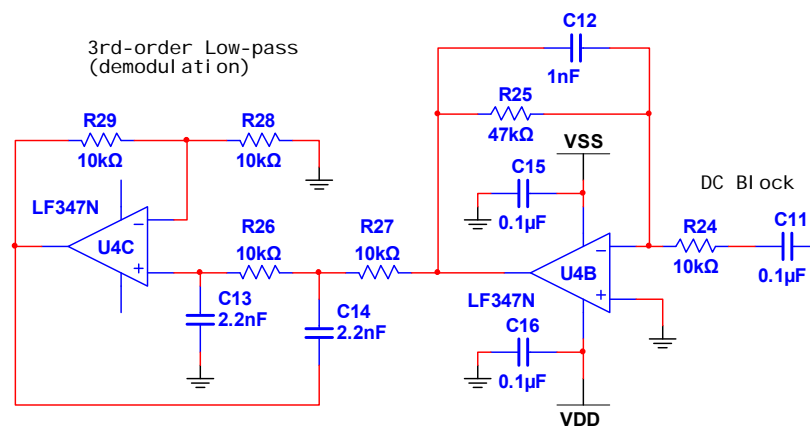

Figure 5-5 – PWM Demodulator
The last step is to demodulate the signal, which can be easily done using a low-pass filter to remove the 40 kHz pulse train. This is shown in Figure 5-5. There is a DC blocking capacitor at the input to remove the DC level associated with the non-zero crossing threshold in the signal conditioning circuit.
- Construct the filter in Figure 5-5. Your receiver is now complete.